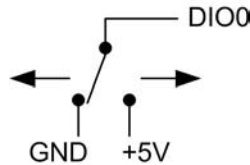

Figure 11. Schematic showing switch detection by digital channel DIO0
When you configure the digital bits for input, you can use the USB-5203 digital I/O terminals to detect the state of any TTL-level input. Refer to the schematic shown in Figure 11. If you set the switch to the +5V input, DIO0 reads *TRUE* (1). If you move the switch to GND, DIO0 reads *FALSE* (0).